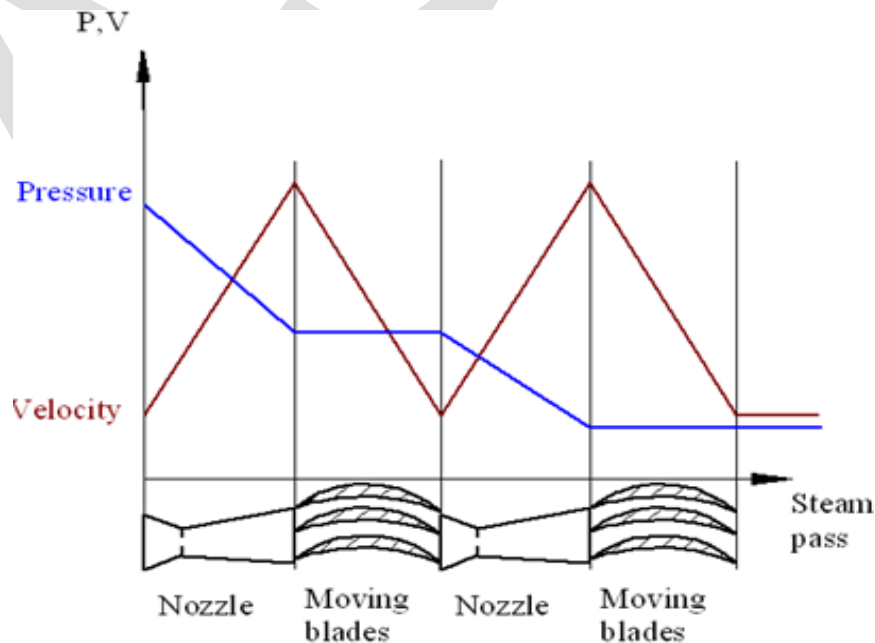

Fig. 3.4 Two stage pressure compounded impulse turbine.
**Answer:** If a number of simple impulse stages arranged in series is known as pressure compounding. The arrangement contains one set of nozzles (fixed blades) at the entry of each row of moving blades. The total pressure drop doesn't take place in the first row of nozzles, but divided equally between all the nozzles as shown in figure 3.4.